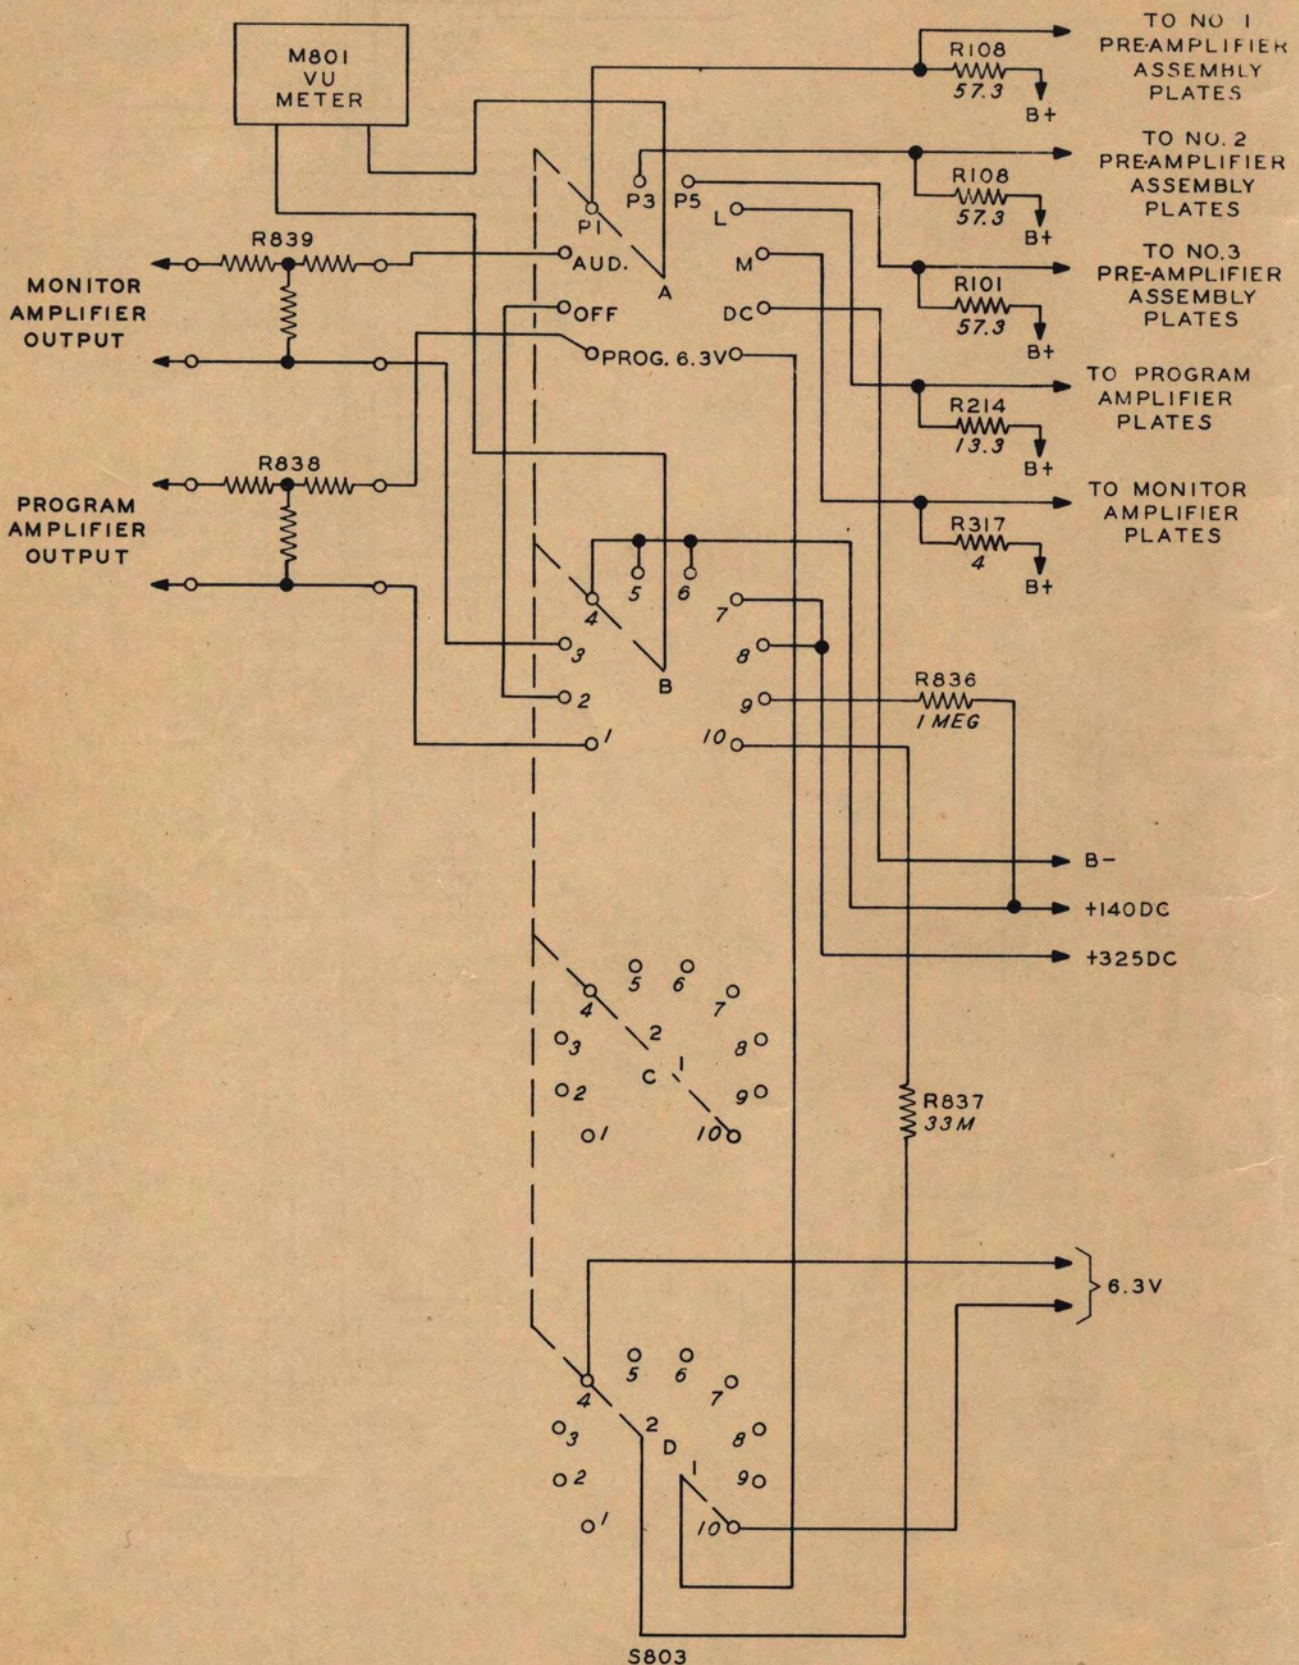

Figure 2-9 Metering Circuits
(11) METERING CIRCUITS. - A comprehensive metering circuit arrangement provides a continuous visual indication of operating conditions. Refer to figure 2-9. The meter M801 may be connected to give an indication of proper operation of any one of the following by use of the metering selector switch S803: (PROG) Program Channel audio level, (OFF) OFF position (AUD) audition Channel audio level, (P1) pre-amplifier plate current, (P3) pre-amplifier plate current, (P5) pre-amplifier plate current, (L) program amplifier plate current, (M) monitor amplifier plate current (DC) 140-VOLT plate supply (6.3V) filament supply voltage. Resistors R101, R108, R214, R217 operate as shunt resistors. Resistors R836 and R837 are series multipliers for the voltage indications. The meter should read +1 db of ZERO for any of the amplifier current or voltage positions. The T pads R838 and R839 are connected across the audio circuits.